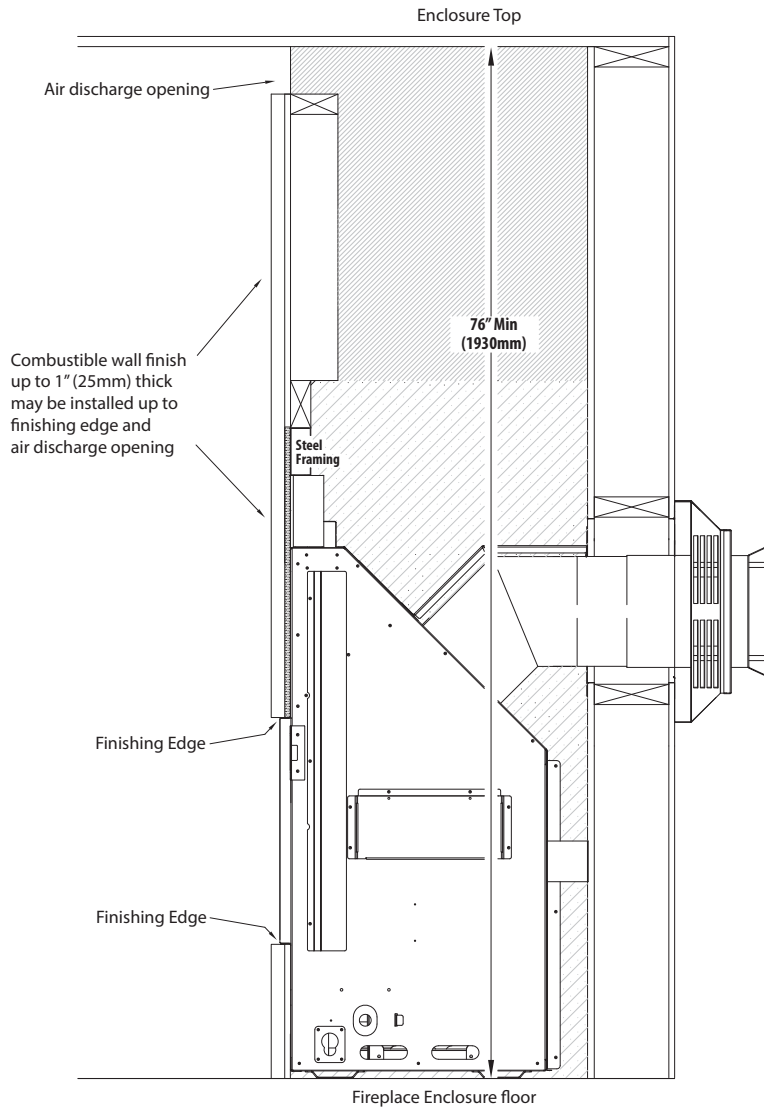

Figure 4.13, Combustible Wall Finish up to 1" (25mm) thick
- Figure 4.13 on page 35 shows installation of combustible wall finish up to 1" (25mm) thick for Komfort Zone Kit(s) and Vented Cavity installations. For KZK-1510A and KZK-054 installations, reference the manuals included with the kit.